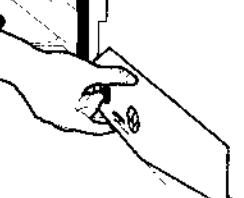

Figure 9b
- Check that dishwasher is level from front to back by placing level on side of opened door. See Figure 9b.